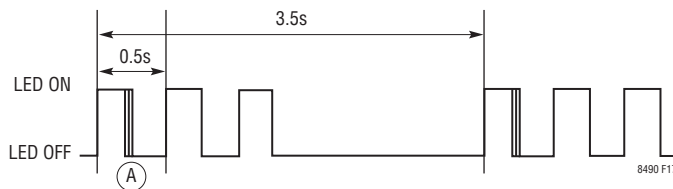
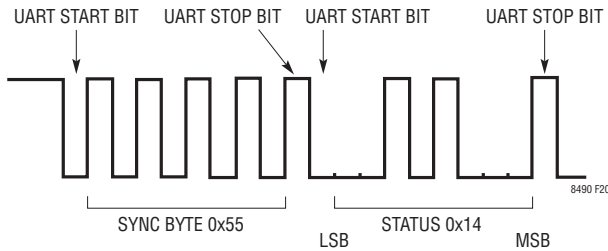
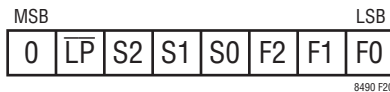

Figure 17. Example Waveform for STATUS Pin in STAGE 3
Figure 20. UART Transmission Waveform from Figure 17 Label (A)
Figure 21. Status Byte Decode
While the LT8490 is operating, the STATUS pin toggles on a 3.5 sec (typical) interval as shown in Figure 17. The three pulses shown in Figure 17 represent the charger operating in Stage 3. The STATUS and FAULT pins pull up to turn the LEDs on and drive to ground to turn the LEDs off.
The STATUS pin also provides a UART (transmit only) communication function. This feature allows for remote monitoring of the LT8490. Immediately after each initial pulse described in Table 6 the STATUS pin sends out a synchronizing byte (0x55) followed by a status byte. UART data is transmitted with the LSB first. Figure 20 shows the zoomed in region labeled (A) from Figure 17.
The status byte shown in Figure 20 has information regarding the present charging stage as well as fault information. The data format for each UART byte is 8 data bits, no parity, with one stop bit. The baud rate is 2400 baud $\pm 10\%$ which may require auto baud rate detection, using the sync byte, for proper data reception. Figure 21 defines each bit present in the status byte. The status byte always contains an MSB of 0. Status bytes containing an MSB of 1 should be disregarded.